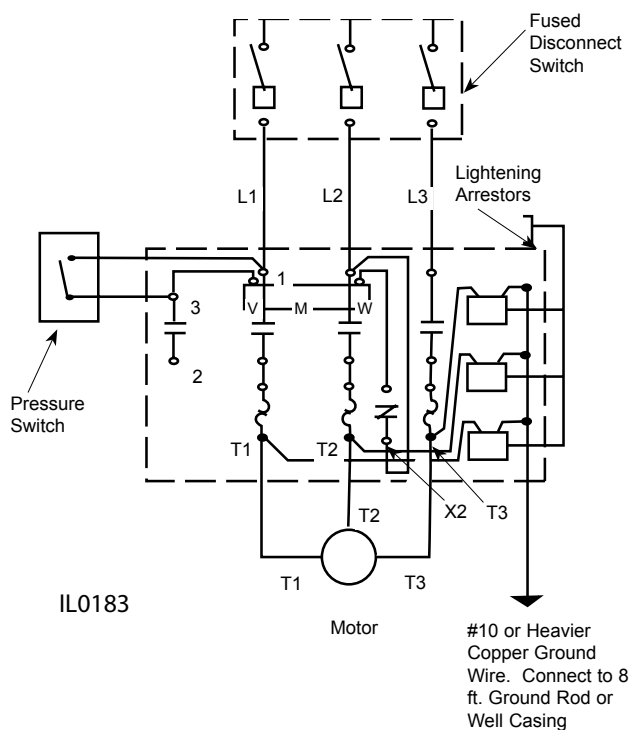

Figure 10 — Magnetic Starter Wiring Diagram — Three Phase
- Three-phase motors do not have built-in thermal protection. It is recommended that a properly sized magnetic or manual starter (both with properly sized heaters) be used with all three-phase motors. Install starters following instructions of the starter manufacturer. See Figure 10 for magnetic starter wiring program.